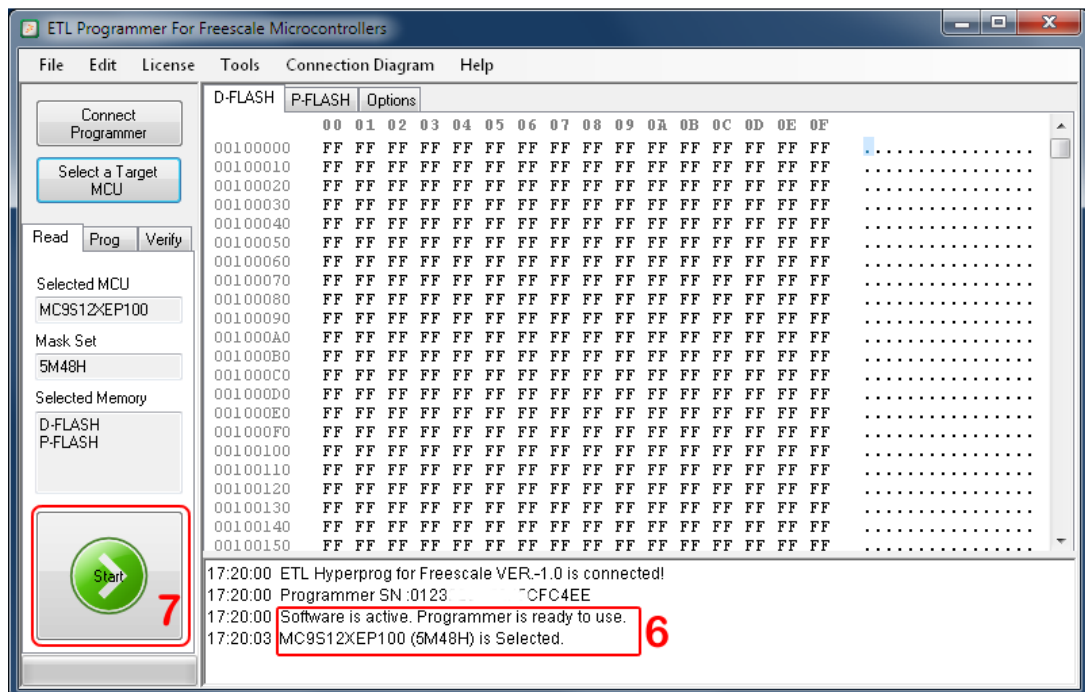

Figure 22 Read Procedure execution
- Execute FLASH read procedure by pressing the 'Start' button (Figure 22).